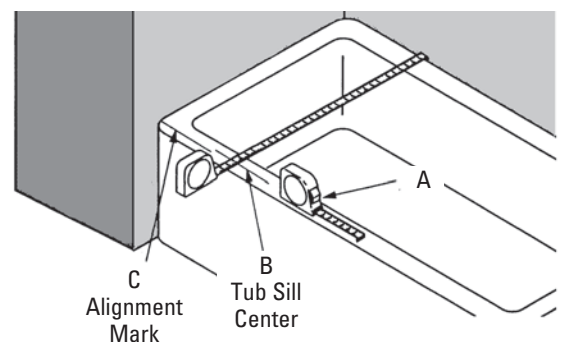

Figure 1
- B. Using the Tape Measure (See Figure 1, A). Find the center of the Tub Sill (See Figure 1, B). Make a mark where the center is, add 34" to this mark and place a new mark on the Tub Sill on both sides (See Figure 1, C).